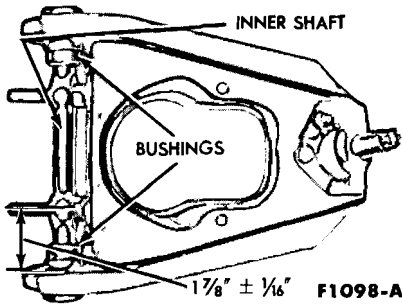

FIG. 7—Installing Inner Arm and Bushing
2. Position the shaft in the arm. Lubriplate and install the new bushings on the shaft and the arm. Turn the bushings so that the shaft is exactly centered in the arm. The shaft will be properly centered when located at the dimension shown in Fig. 7. Position the bushings carefully to avoid damaging the O-rings inside the bushings.